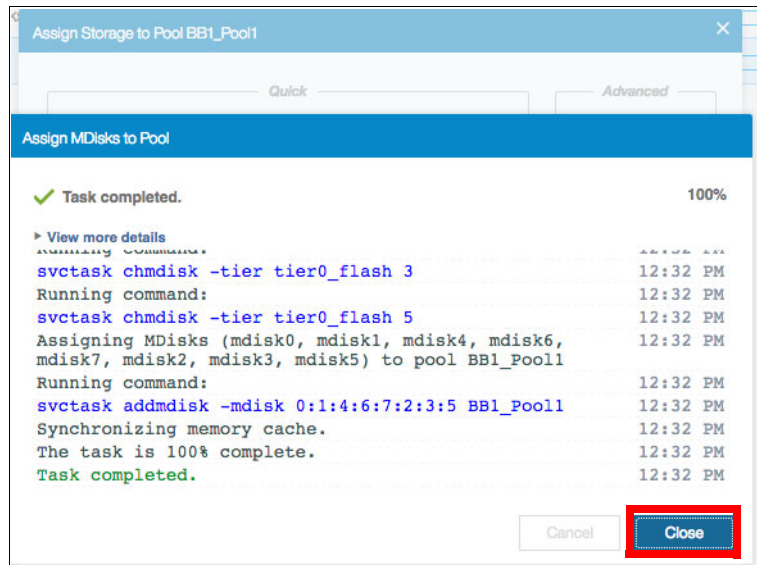

Figure 4-55 Command output from adding the AE3 storage to the pool
- In Figure 4-55 the commands run are shown, including changing the storage tier and adding the MDisks to the pool. Click **Close**.